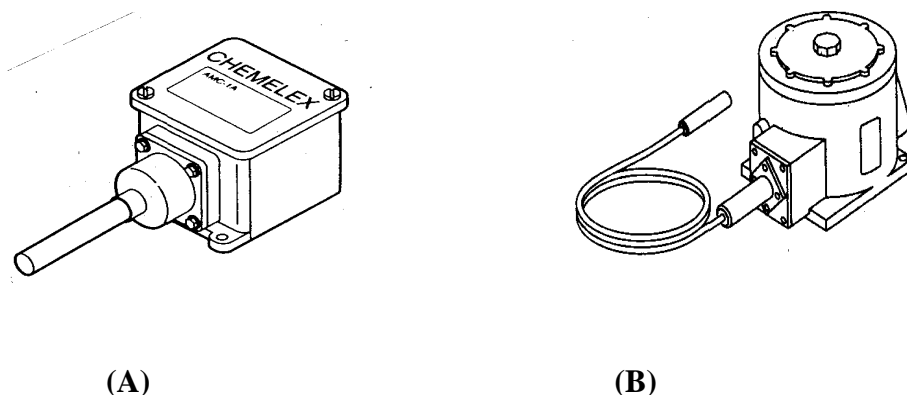

Figure 3 Ambient (A), and Line Sensing (B) Type Thermostats
There are primarily two types of thermostat construction. The difference in the types is related to the method of sensing temperature changes. The ambient type thermostat shown below in figure 3, *Ambient (A) and Line Sensing (B) Type Thermostats*, illustrates the short sensing probe extending from the bottom of the thermostat body. This probe responds to the surrounding or ambient temperature to cause the internal pressure change. The Line Sensing Thermostat also illustrated in figure 3, has a long length (approximately 10 feet) of stainless steel capillary tubing